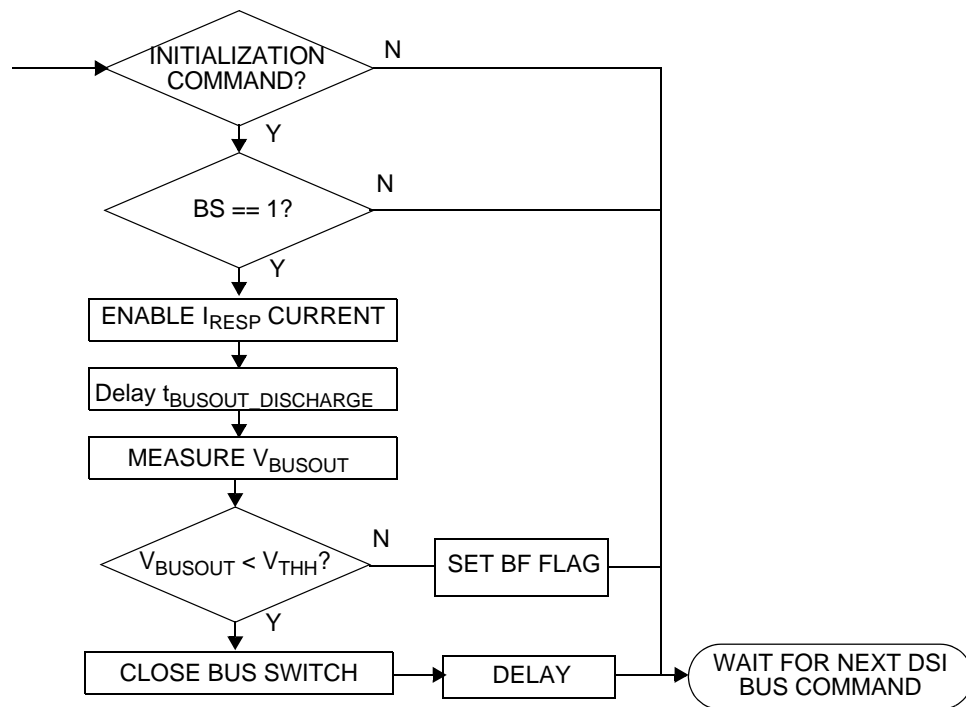

Figure 23. Initialization Sequence
Figure 23 illustrates the sequence of operations performed following negation of internal power-on reset (POR) and execution of a DSI Initialization command. The BUSOUT node is tested for a bus short to high voltage condition, and the bus fault (BF) flag is set if an error condition is detected. If no bus fault condition is detected and the BS bit is set in the Initialization command message, the bus switch will be closed. The device implements a blanking time ($t_{\text{DSI_BLANK_INIT}}$) to allow for the bus voltage to recover following closure of the bus switch.